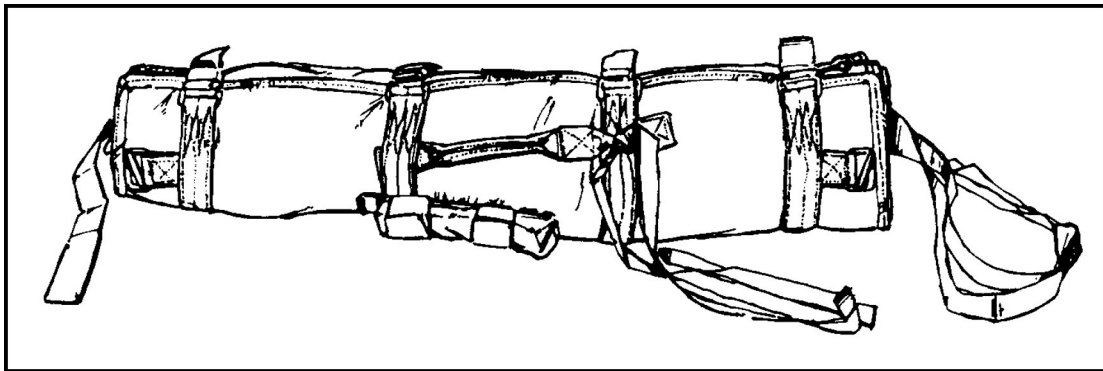

Figure 12-51. Pack closed.
- (1) Rotate the unfolded portion over the rifle and weapon round snugly.
- (2) Route the four side securing straps through the quick-fit adapters and tighten, then thread the end through the adapter, forming a quick-release fold. Fold the strap excess back under its corresponding quick-fit adapter (Figure 12-51).